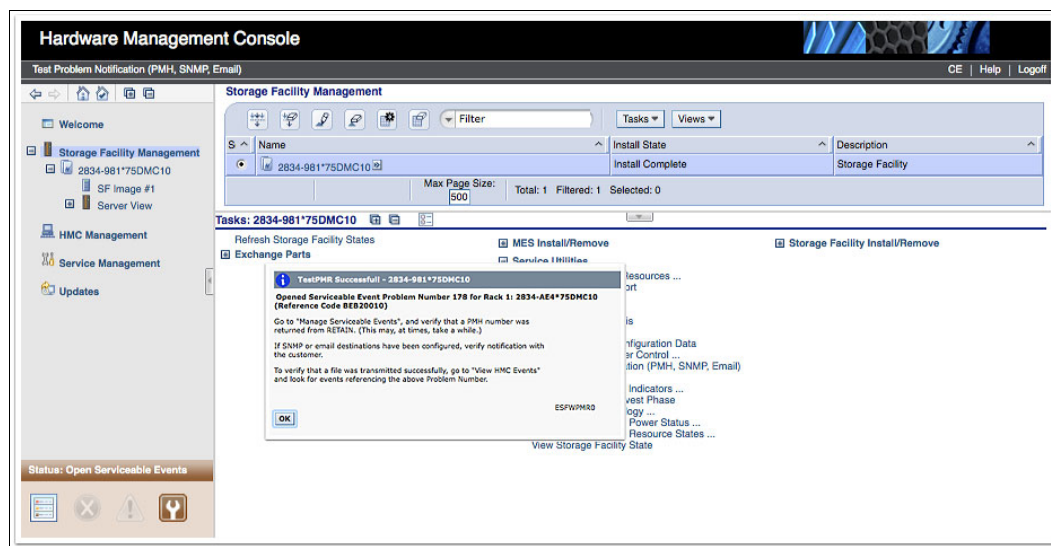

Figure 14-5 HMC SNMP trap test
- The test generates the Service Reference Code BEB20010 and the SNMP server receives the SNMP trap notification, as shown in Figure 14-5.